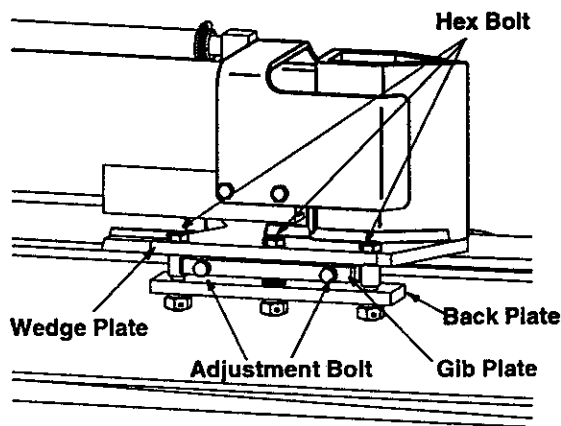

Figure 13
- Loosen the lock nuts on the two adjustment bolts on the side of the gib plate, located beneath the splitting wedge. See Figure 13. Turn the adjustment bolts in until snug, then turn them off **slowly** until the wedge assembly will slide on the beam.
- Remove the center bolt on top of the wedge plate. Slide the gib plate out. See Figure 13.